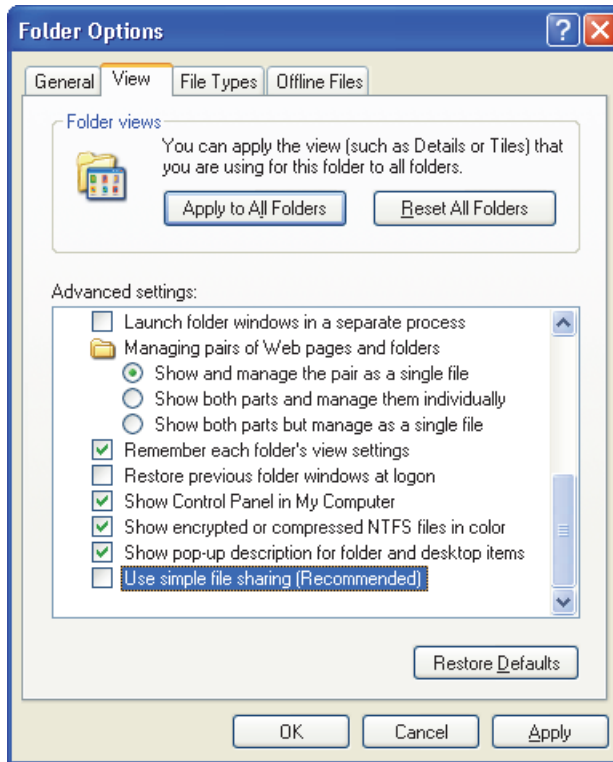

Figure 7-14 The Folder Options dialog box (Windows XP)
- c) In the **Folder Options** dialog box, click the **View** tab (see Figure 7-14 on page 204).